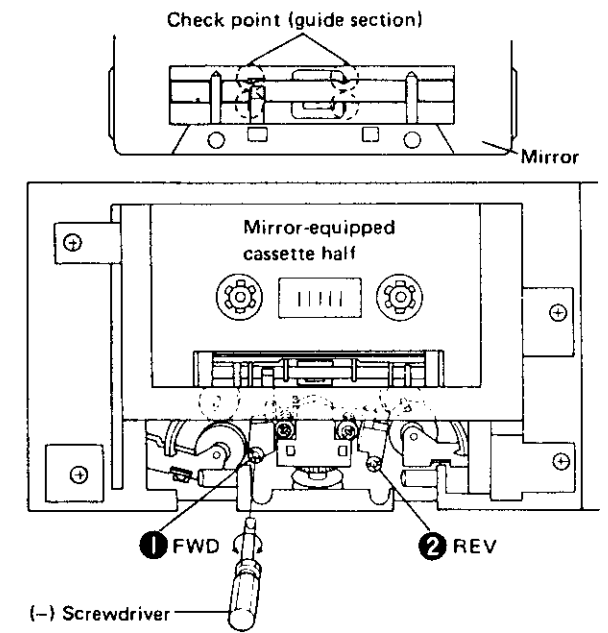

Fig. 12-4 Tape travel adjustment
2. Adjust nut ① to ensure that no tape curling occurs in the guide section of the recording and erase heads as shown in Fig. 12-4.
4. Adjust nut ② to ensure that no tape curling occurs in the guide section of the recording and dummy heads.